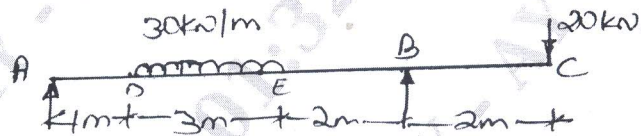

Fig.Q10(b)
b. An overhanging beam ABC supported at A and B is loaded as shown in Fig.Q10(b). Determine the deflection at free end C and the maximum deflection between A and B. Take $\epsilon = 200\text{ kN/mm}^2$, $I = 45 \times 10^6\text{mm}^4$.